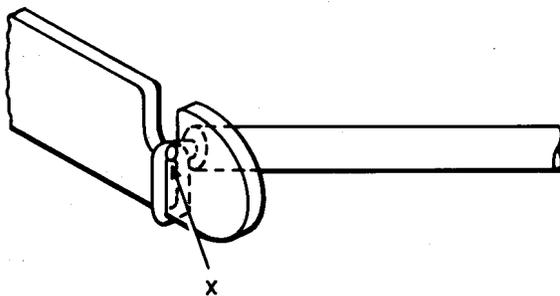

Fig. 4—Termination of Wire on Protector (Notch on Upperside of Terminal)
**7.05** To terminate a wire on a protector terminal where the notch appears on the top as shown in Fig. 4, route the wire through the notch, down the front side and up the rear side, making one complete turn around the terminal. Break